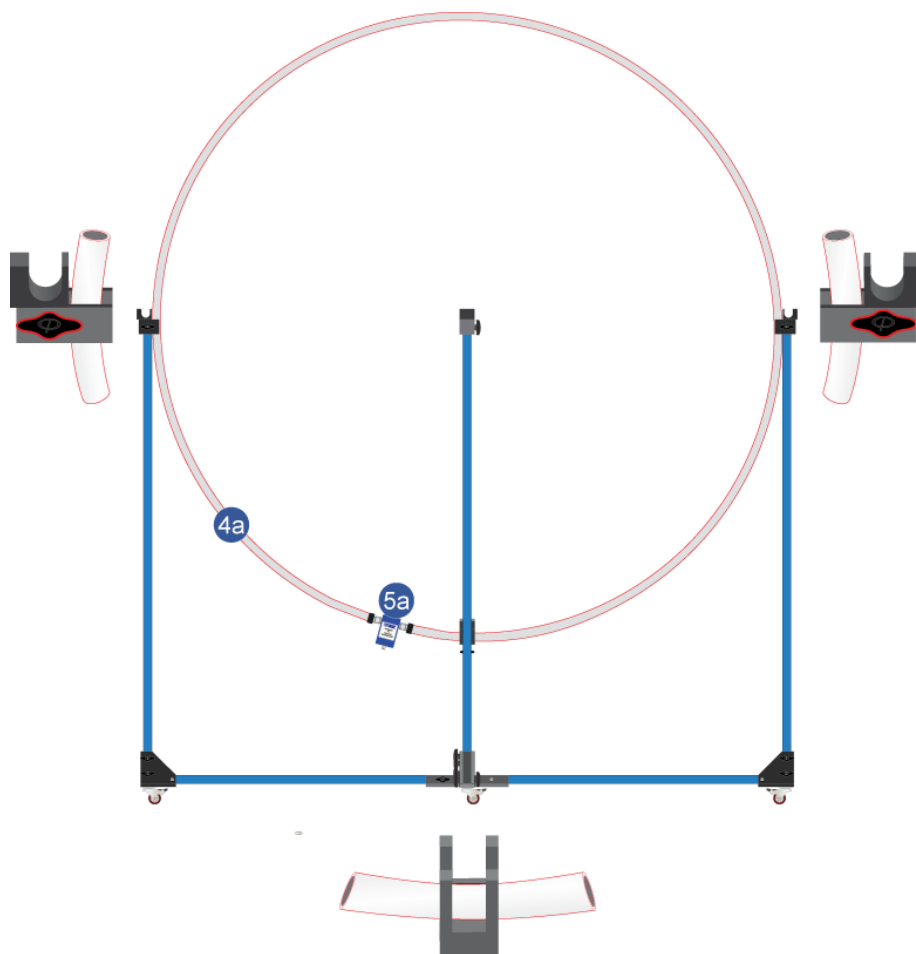

Figure 12 – ALT-930-2M Triple Loop Antenna Assembly – Step #8
Loosen the finger knob bolts on each of the four (4) dual loop clamps mounted at the top of the vertical posts. Install the loop/transducer assembly with both ends of the loop connected 4a/5a as shown in Figure 12. The loop assembly should be rotated such that the Current to Voltage Transducer 5a is located near the Vertical Center Post. Re-tighten the appropriate finger knob bolts to secure the loop assembly in place.